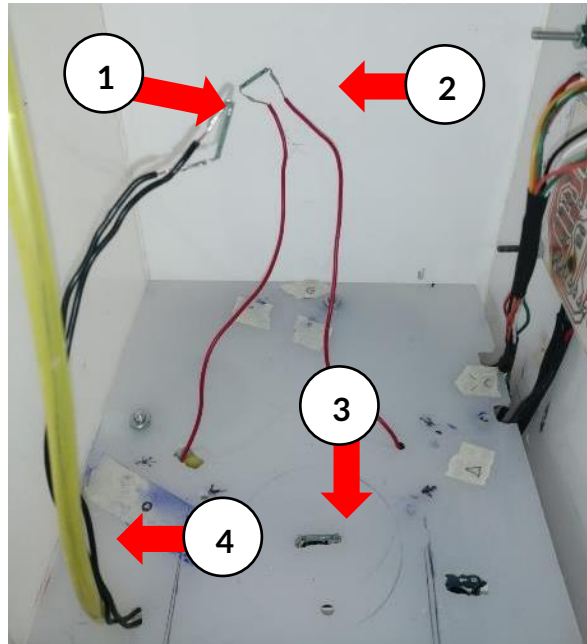

Figure 25- Arm Reed Switch (1), Tray Reed Switch (2), Hose (3)
8. The reed switch of the arm (1), the reed switch of the tray (2), reed switch of the cup (3) and the hose for the pneumatic system (4) shown in the figure are passed through the holes of the intermediate division. Figure 25.